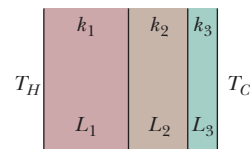

Figure 18-46 Problem 60.
••60  Figure 18-46 shows the cross section of a wall made of three layers. The layer thicknesses are  $L_1$ ,  $L_2 = 0.700L_1$ , and  $L_3 = 0.350L_1$ . The thermal conductivities are  $k_1$ ,  $k_2 = 0.900k_1$ , and  $k_3 = 0.800k_1$ . The temperatures at the left side and right side of the wall are  $T_H = 30.0^\circ\text{C}$  and  $T_C = -15.0^\circ\text{C}$ , respectively. Thermal conduction is steady. (a) What is the temperature difference  $\Delta T_2$  across layer 2 (between the left and right sides of the layer)? If  $k_2$  were, instead, equal to  $1.1k_1$ , (b) would the rate at which energy is conducted through the wall be greater than, less than, or the same as previously, and (c) what would be the value of  $\Delta T_2$ ?